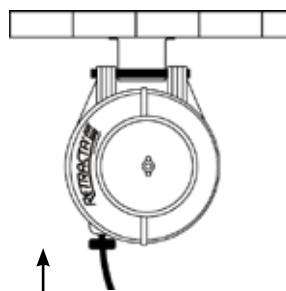

Fig.2 Overhead mounting
7. With the mounting bracket installed, the reel can now be mounted to the bracket using the Pivot Tube. To prevent the reel from swivelling in the overhead position (figure 2) use the locking bracket. See Fitting the Locking Bracket section of this instruction manual for fitting instructions.